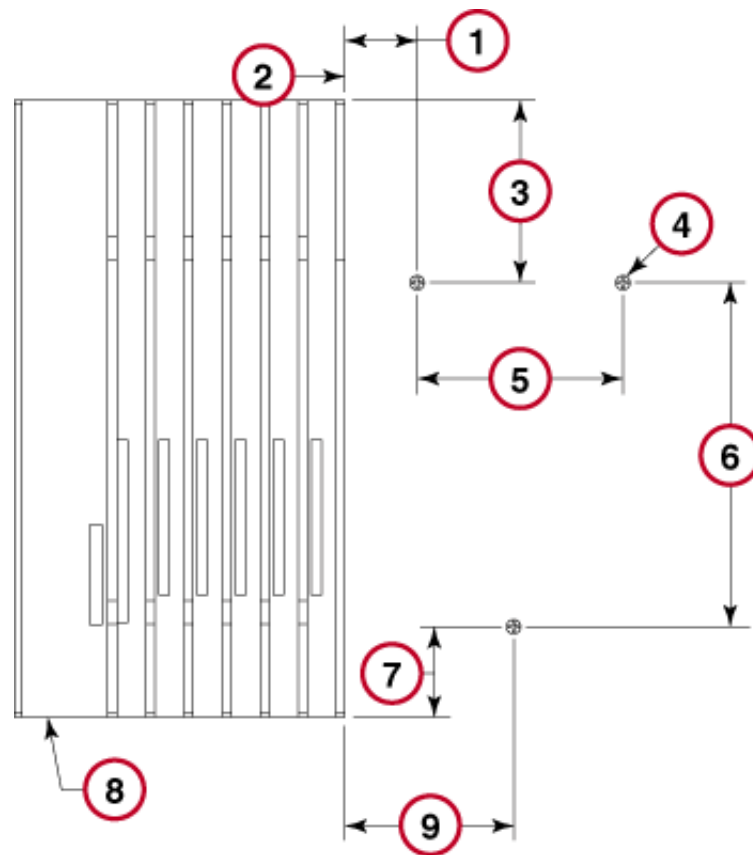

Figure 7-4. Positioning Mounting Screws
- If you are not using mounting brackets to mount the expansion carrier, see Figure 7-4 for the correct positioning of the mounting screws.